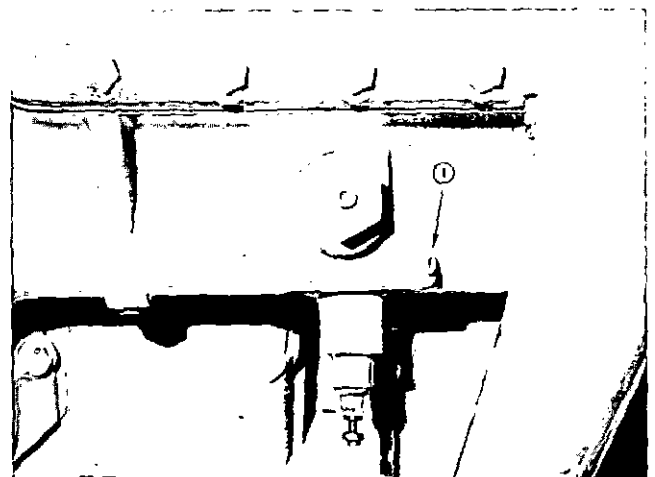

Fig. 2-5. Glow plug inspection hole
1. If engine gives no indication of starting during first three full strokes of preheater pump, touch-check intake manifold for heat. If there is no heat, check electric wiring. If wiring is all right, remove  $\frac{1}{8}$ " pipe plug (1, Fig. 2-5) from manifold near glow plug and check flame while a helper performs the preceding Steps 2, 3 and 4.